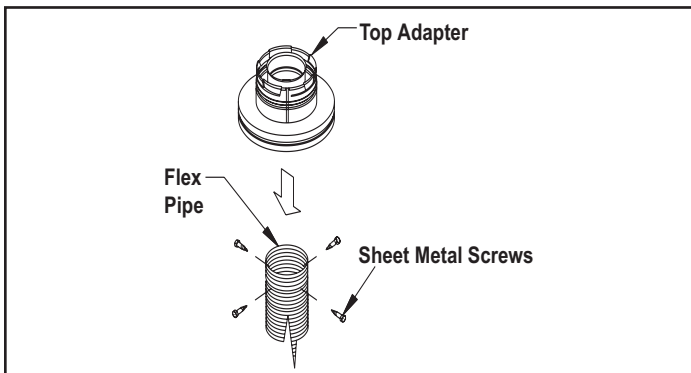

Figure 5.21
**Step 3** - Connect the end of the flex pipe section to the underside of the top adaptor, using four sheet metal screws (Figure 5.21).
**Step 5** - Connect the flex liner to the top adaptor using three sheet metal screws, Figure 5.21.